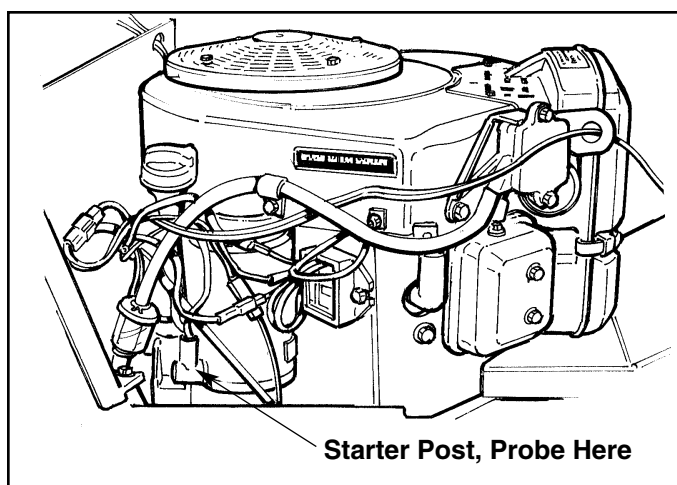

Figure 21. Testing Power to Starter
1. Probe ground. Pull the boot back and probe the starter post (see Figure 21).